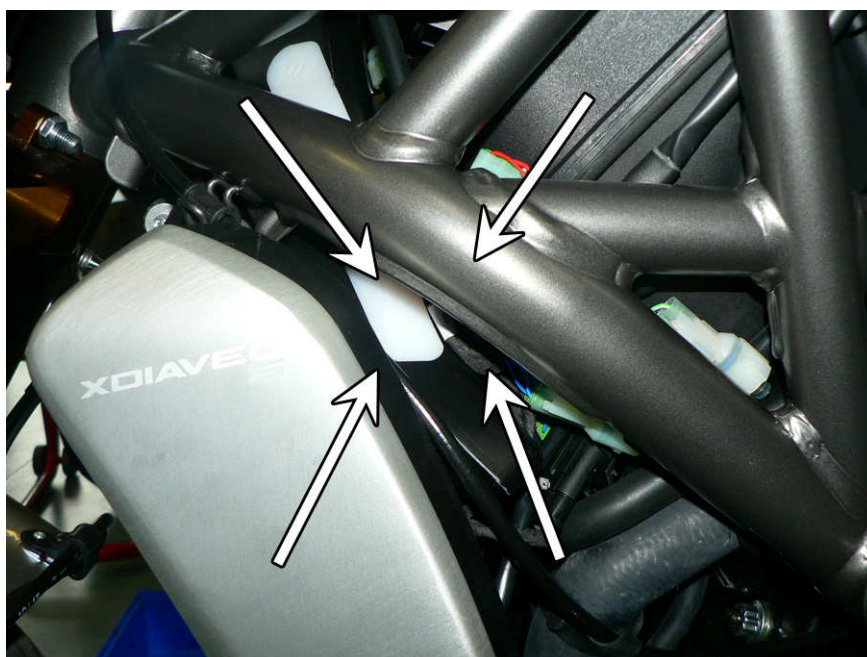
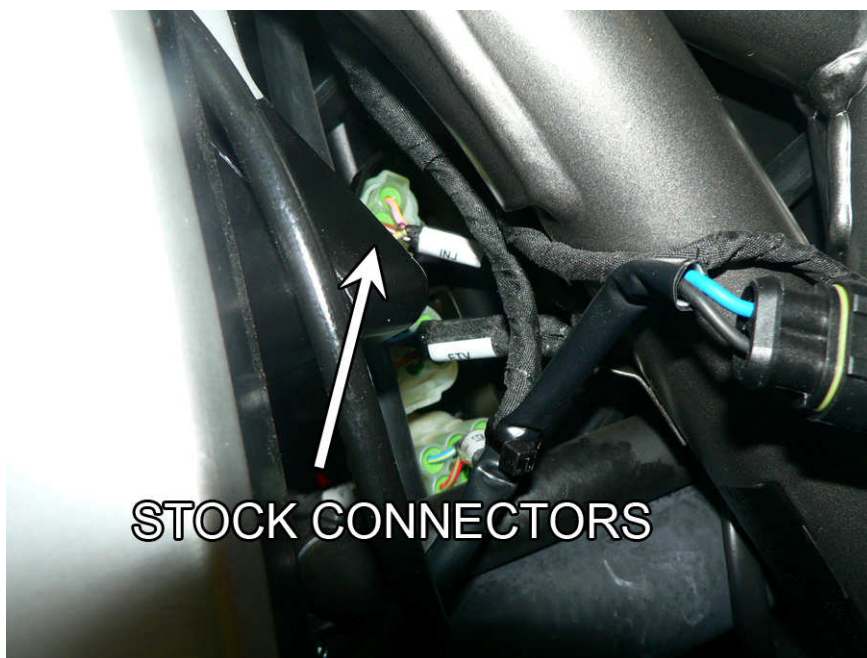

Fig.1
Fig.2
3. Locate and disconnect the white 3 pin connector marked as **INJ** placed on the front left side (**Fig.1 – Fig.2**).